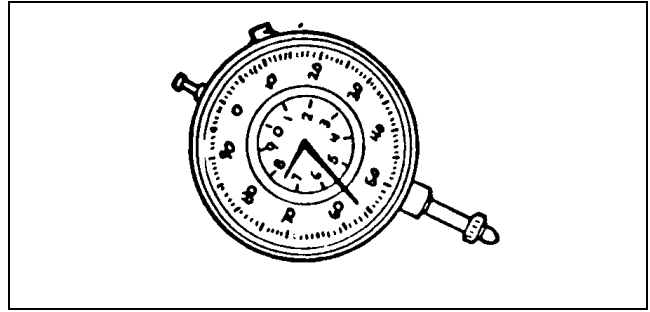

Figure 16
- TOR2437T Dial Indicator (Fig. 16)